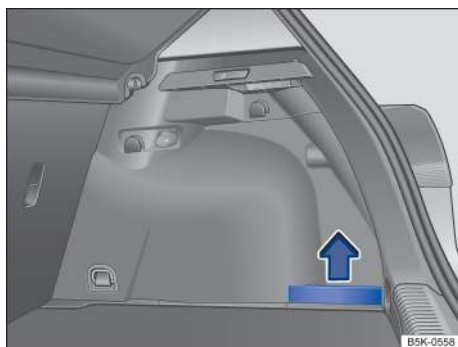

Fig. 144 In the luggage compartment: Side storage compartment with removable panel.
- **To remove:** Pull the side panel upward in the direction of the arrow → fig. 144.